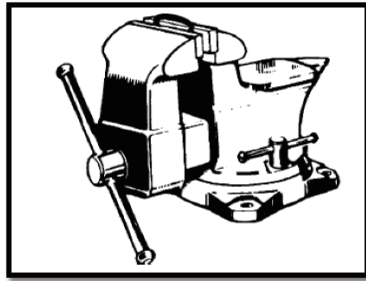

FIG 6
1. Insert one link lengthwise into a vise (FIG 6). Be sure that the side opposite the weld lies completely below surface of vise jaw (about 1/3 of a link). This prevents nicking or cutting the lower part of the link.